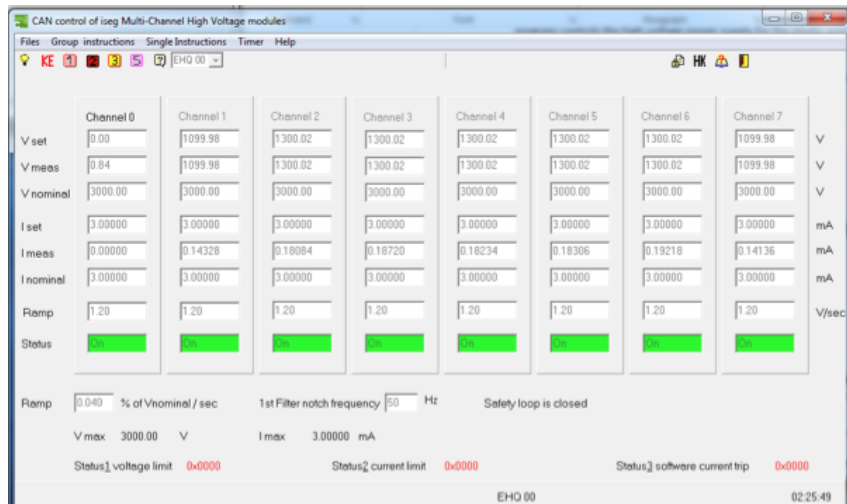

Figure 15a. iSEG Multi-Channel High-Voltage Modules; Ch00.
- Click on the **EHQ00** and **EHQ01** (or EHS00 and EHS01) modules. A window opens for each module (Figures 15a and 15b). Check the following items: